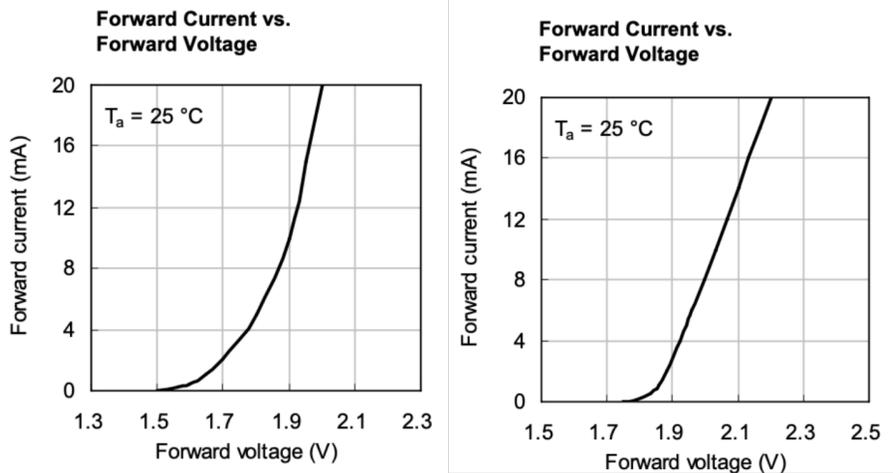
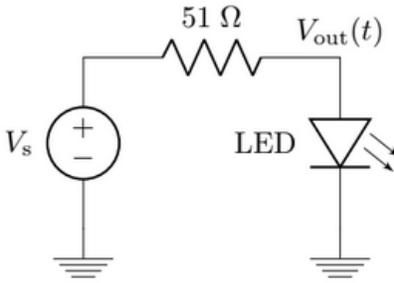

Figure 4: IV curves from the datasheets for the red (left) and green (right) LEDs. Note that these do not look like typical 60 mV/decade exponentials.
Figure 8: Red LED circuit.
You can see the IV curves of the red and green LEDs in Figure 4. You will want to run them at around 10-20 mA so that they are nice and bright, but you don't want to push
- P2. For the red LED circuit in Figure 8, what should the supply voltage V_s be to get 20 mA of current? Hint: Use the datasheet for the red LED (in bCourses, Files → Lab Documents → Datasheets; also displayed in Figure 4.) and find the voltage where 20mA of forward current is conducting.